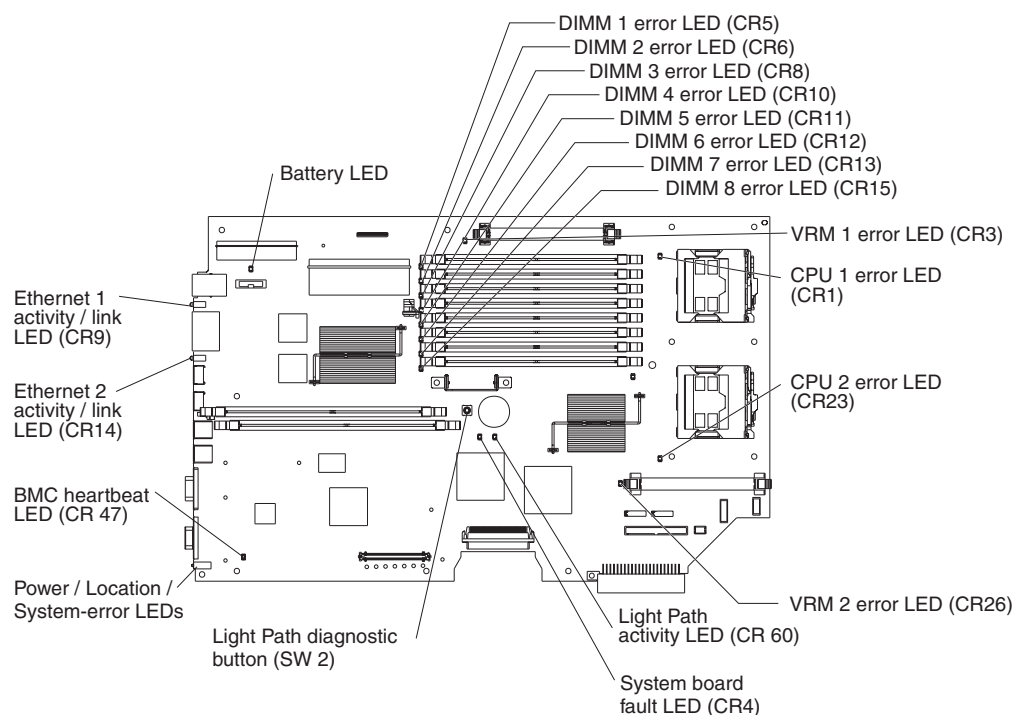

Figure 8. System-board LEDs
Many errors are first indicated by the illumination of the system-error light in the operator information panel on the front of the server (see “Server controls and LEDs” on page 4). If the system-error light is lit, one or more lights inside the server (see Figure 8) might also be lit that can direct you to the source of the error.
4. If the lit LED on the light path diagnostics panel refers to a specific internal component as indicated in step 3, look inside the server to check the lit LEDs on the system board (see Figure 8 on page 19). For example, a microprocessor error will light the LED next to the failing microprocessor.
If the BMC code in the server becomes damaged, the server might have difficulty restarting (rebooting). If the server does not turn on and the heartbeat LED (CR 47; see Figure 8 on page 19) is not on, you will need to force a BMC update.